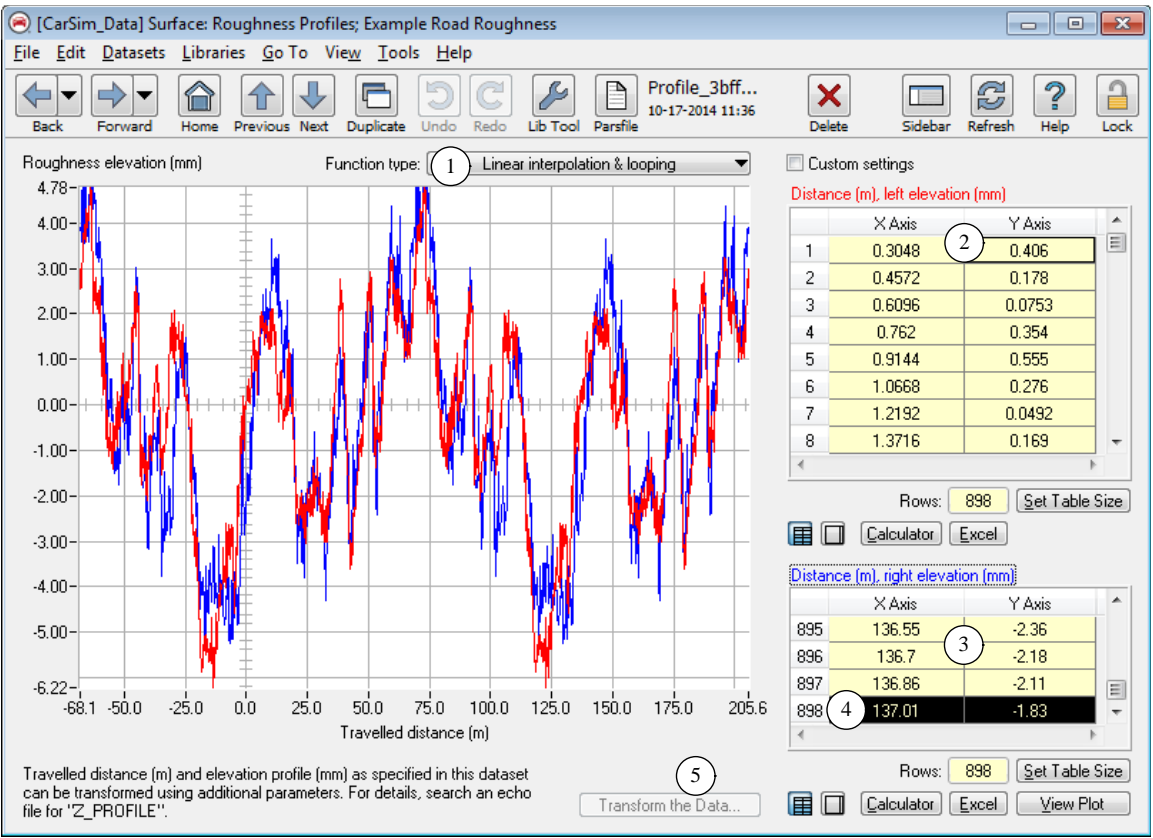

Figure 52. The Surface: Roughness Profile screen.
The Surface: **Roughness Profiles** screen in CarSim and TruckSim (Figure 52) have two tables of data: one for the left side tires and another for the right side tires. BikeSim has a single wandering profile.
The roughness profiles can be made to loop endlessly, providing continuous excitation during a lengthy simulation. The looping is specified with the drop-down control ①, as shown in Figure 52.
- ① Checkbox to de-trend the data by applying a linear regression to calculate the overall mean elevation Z and overall trend dZ/dS , where Z is the elevation in the table and S is the distance in the table. Both effects are removed, such that the remaining data have zero average elevation and zero trend.
- ② Checkbox to apply a cosine-taper filter to smooth the transition when looping. The conversion does the following:
1. Replaces the beginning of the profile for a range that is specified with a fraction ③ of the overall profile length
3. Clicking the **Calculate** button ④ sets the Configurable Function on the **Surface: Roughness Profiles** screen from **Linear interpolation, flat-line extrapolation** to **Linear interpolation & looping** (①, Figure 52).
- ③ Fraction of profile data that will be removed to smooth the transition when looping. For example, a value of 0.1 (recommended) means that the beginning covers 1/10 of the total length and the profile is shortened by 1/10.
- ④ Calculate button, used to apply the settings on this screen to the **Surface: Roughness Profiles** dataset (Figure 52).